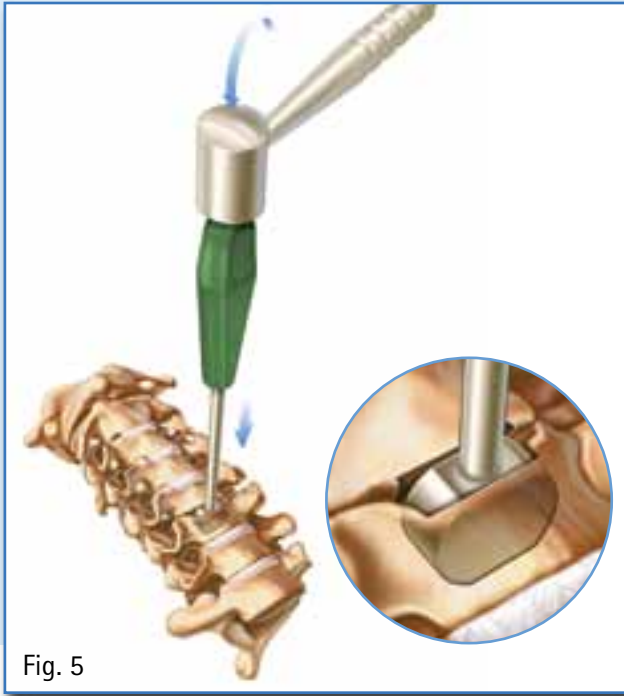

Fig. 5
- Utilize the cottle mallet to gently advance the trial into the disc space. (Fig. 5)